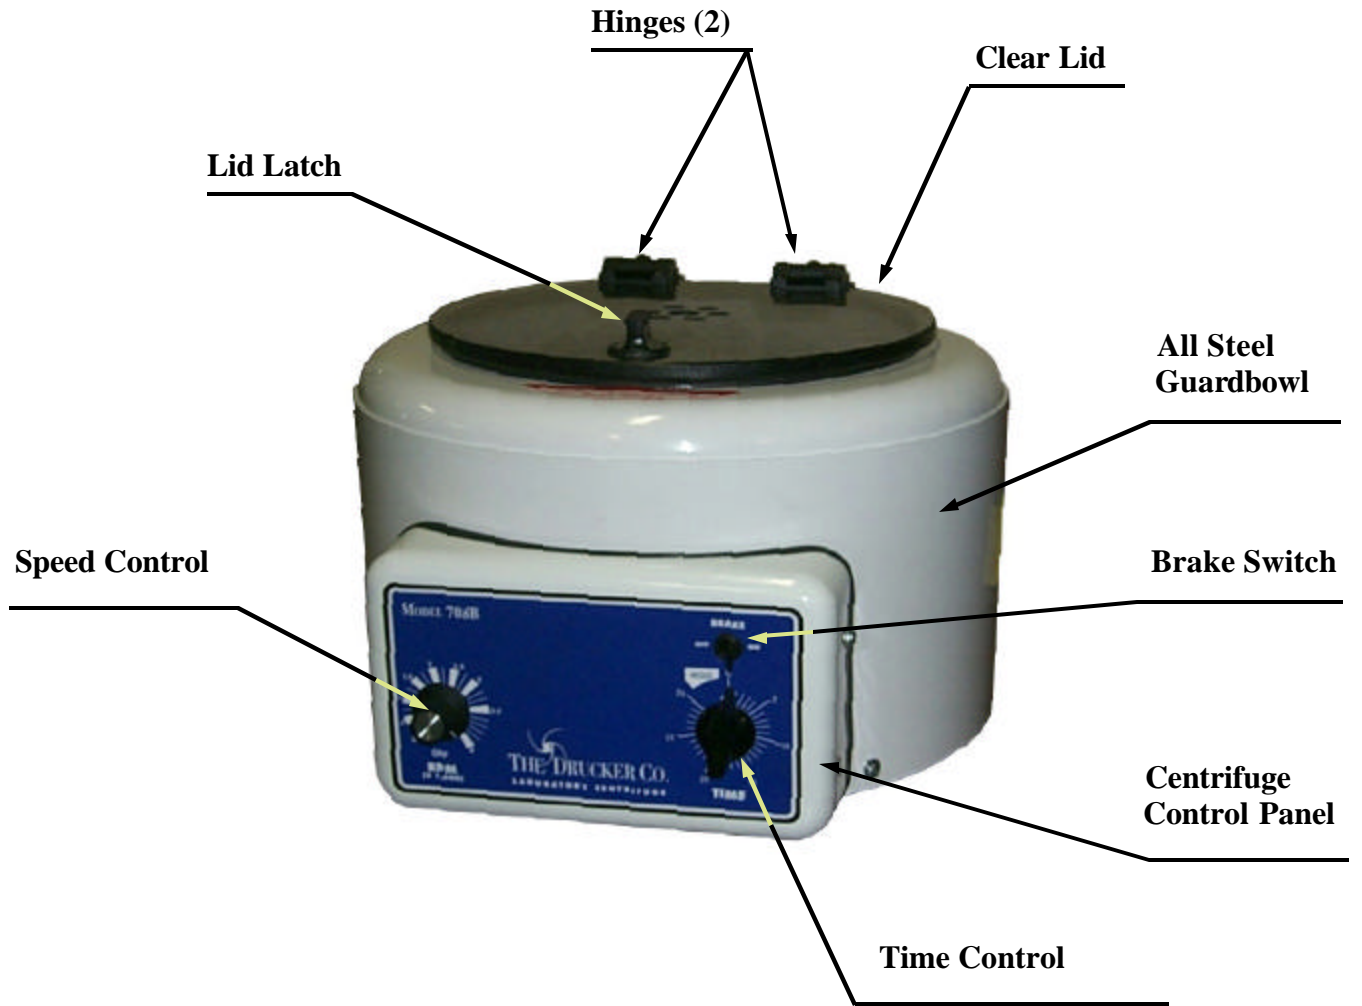

Figure 1.
1.3 Construction (see Figures 1 and 2)